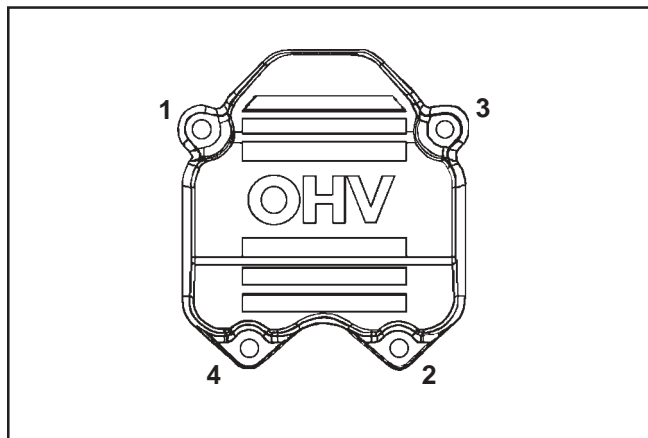

Figure 5-2. Valve Cover Torque Sequence.
6. Install the longer screws in the upper holes and the shorter screws in the lower holes. Finger tighten all eight valve cover mounting screws (four each side), then torque the screws to **6.2 N·m (55 in. lb.)** in the sequence shown in Figure 5-2.